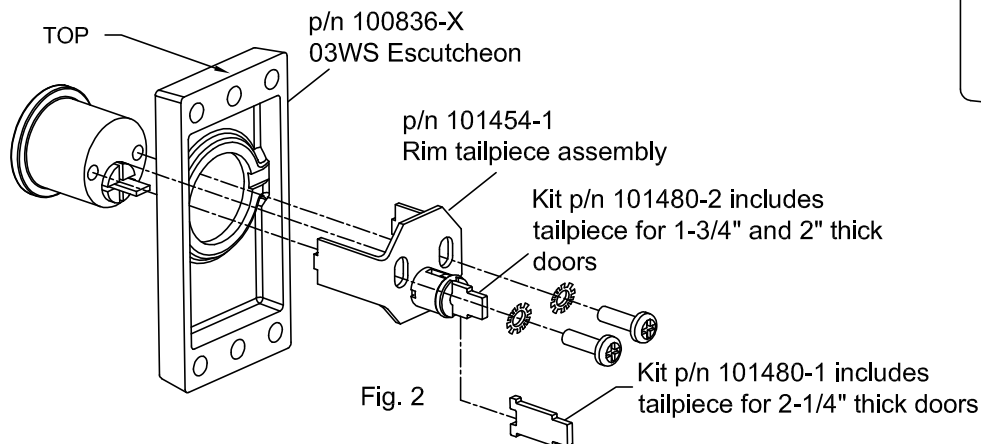

Fig. 2
2. Assemble the rim tailpiece assembly and cylinder as shown in Fig. 2 below.
3. Select tailpiece for proper thickness of door. See Fig 2.